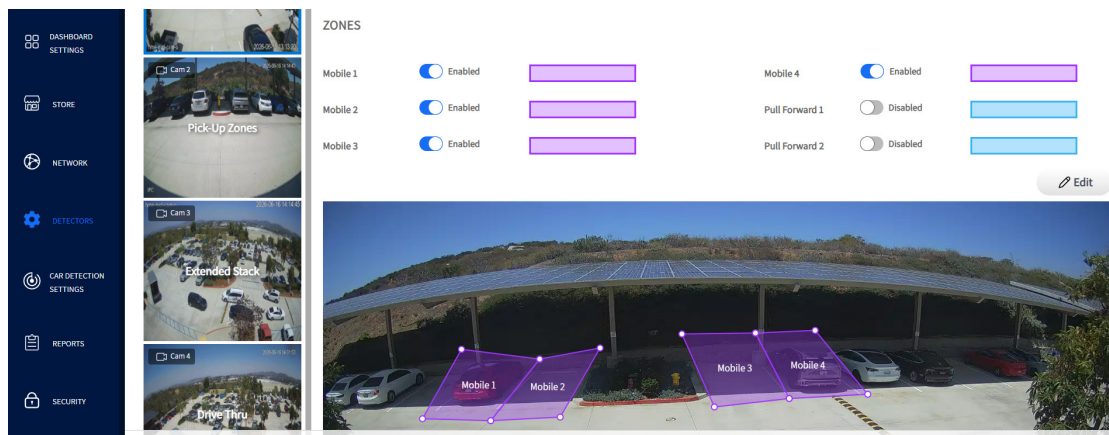

Fig. 4.6
- With the Camera Preview now displayed (Fig. 4.6), determine if the view is good enough to draw zones. If not, the camera angle will need to be adjusted. After each adjustment, use the “Refresh All Cameras” button to refresh the preview image to the newly adjusted angle.